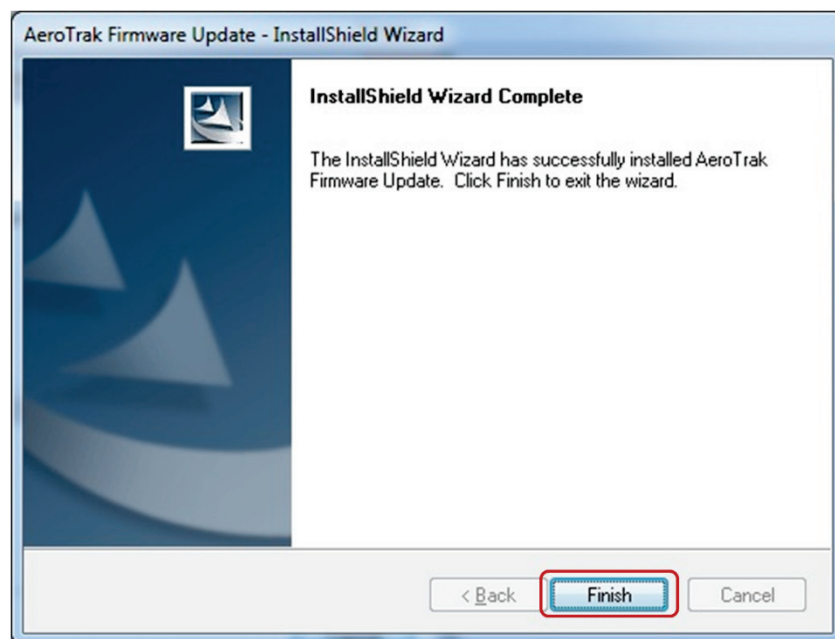

Figure 5
5. Select the **Finish** button to complete the installation (Figure 5).